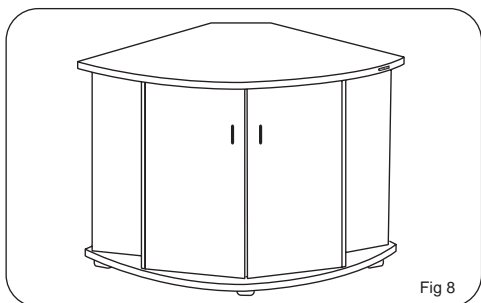

Fig 8
15. Place the aquarium on a flat level surface strong enough to support its weight. We recommend a genuine **Aqua One** Aquarium Cabinet (Sold separately) rather than general household furniture. Fig 8